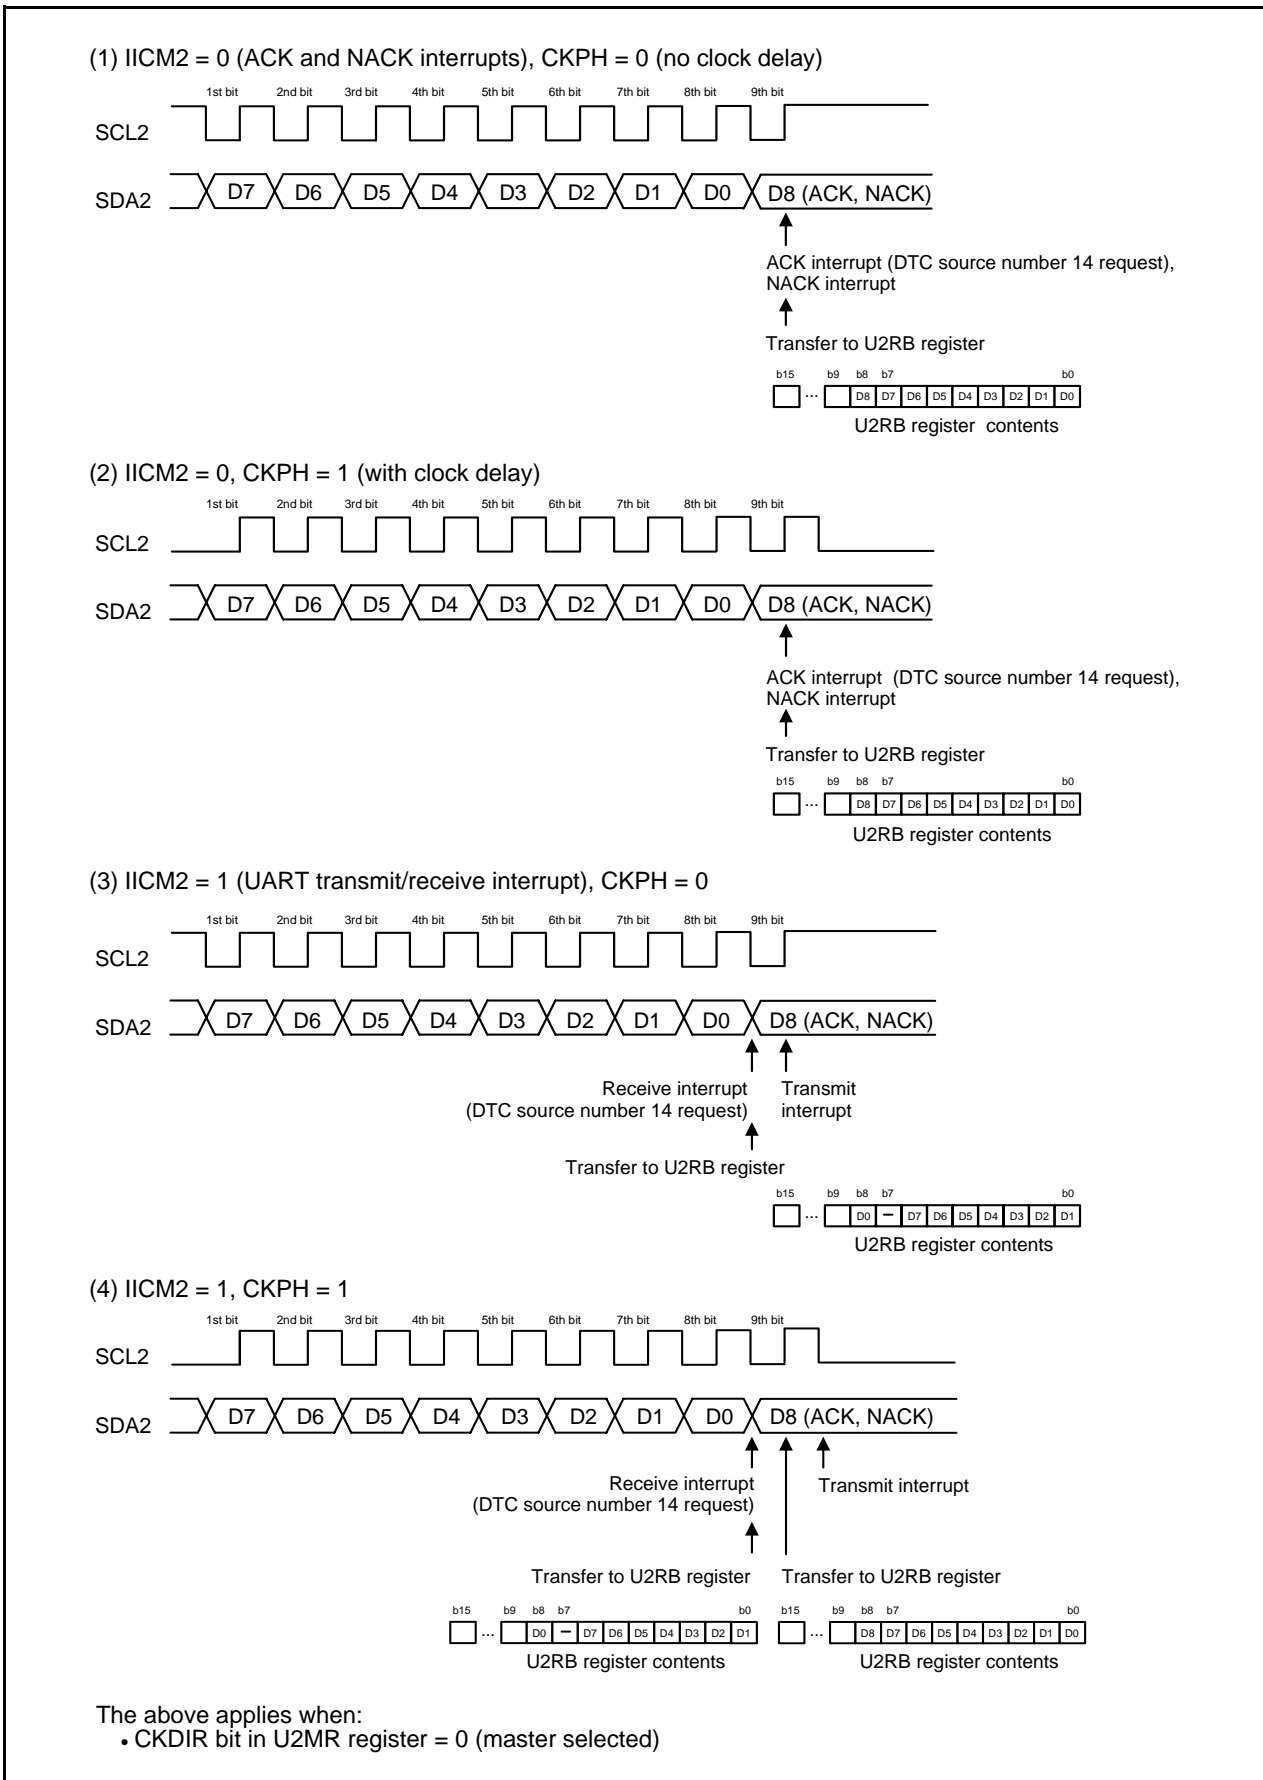

Figure 22.14 Transfer to U2RB Register and Interrupt Timing
- Refer to **Figure 22.14 Transfer to U2RB Register and Interrupt Timing**.
The transfer clock is used to transmit and receive data as is shown in **Figure 22.14 Transfer to U2RB Register and Interrupt Timing**.